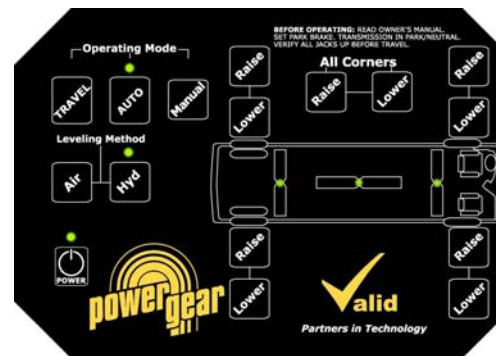

Fig 3
4. Now the vehicle should be level and all three level displays should be indicating green (Fig 3). The **AUTO** indicator stops flashing and stays lit.